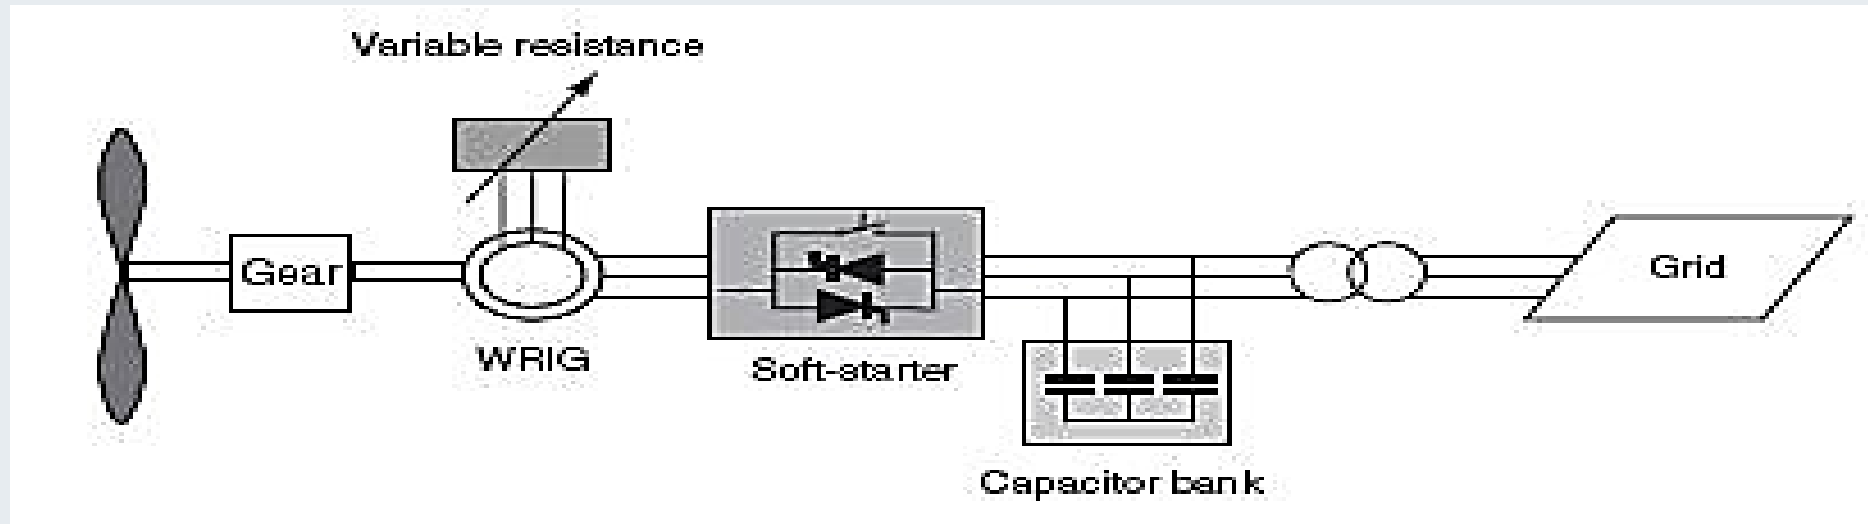

Figure 3: Type-2 WECs: Limited Variable Speed.
**3.1 Type-2 WECs:** It uses the **wound** rotor induction generators , which is directly connected to the grid through step-up transformer in a fashion similar to Type-1, see Fig.3